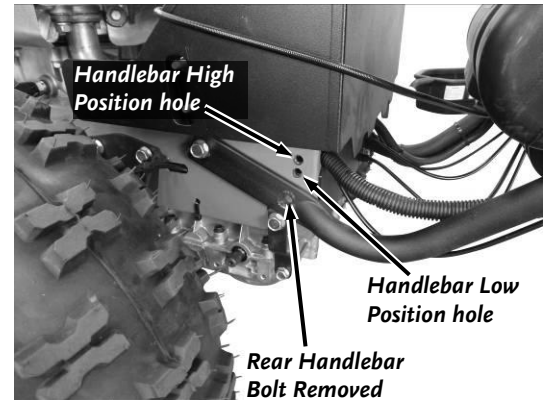

Figure 13
1. Remove Rear Handlebar Bolt with a 9/16" Wrench from both handlebars (**Figure 13**).